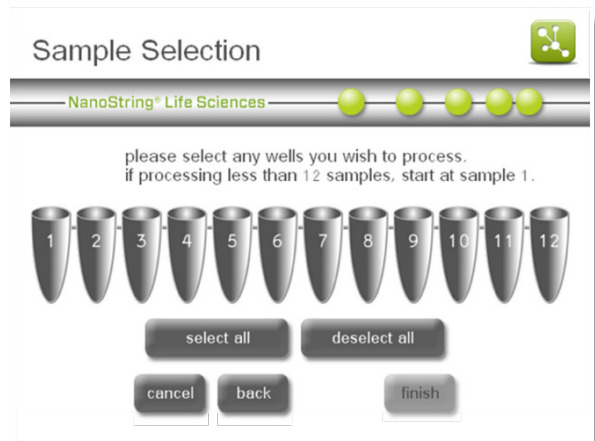

Figure 132: The 'Sample Selection' screen.
3. The 'Sample Selection' screen will appear (Figure 132). After selecting the samples to be processed, press **finish**.